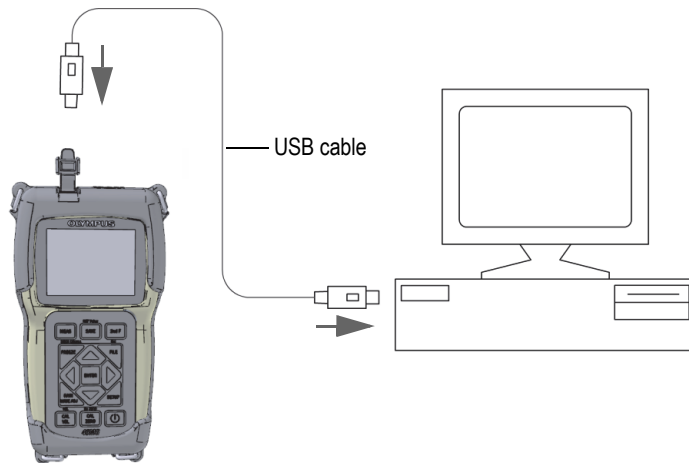

Figure 11-1 Connecting the 45MG to a computer
4. Connect one end of a USB cable to the USB client connector on the top of the 45MG, and connect the other end to a USB port of the computer (see Figure 11-1 on page 196).